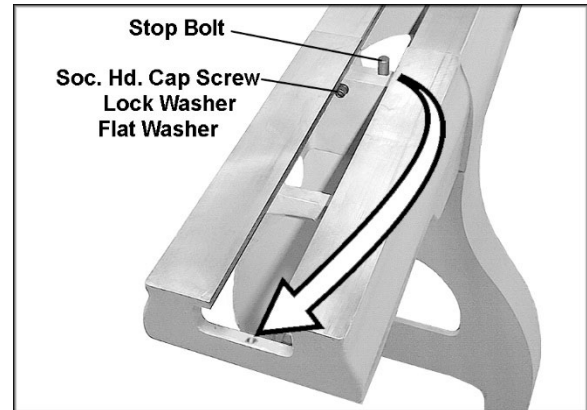

Figure 7 (optional 18" bed extension shown)
2. Have an assistant hold the bed extension flush to the end of the Lathe bed, and insert three 3/8 x 1-3/4 socket head cap screws, three 3/8 lock washers and three 3/8 flat washers, through the holes in the bed extension into the threaded holes on the Lathe. See Figure 7.
5. Unscrew the stop bolt from the Lathe bed (Figure 7), and screw it into the hole at the end of the bed extension.